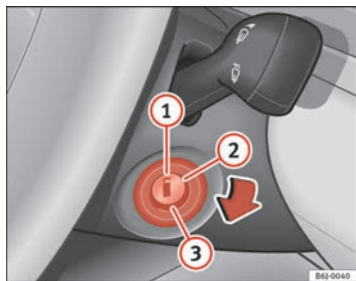

Fig. 101 Ignition key positions
In this position ⇒ fig. 101 the ignition and the engine are OFF and the steering may get locked.
- Turn the ignition key to position ⇒ page 132, fig. 101 ②. The indicator lamp  will light for engine pre-heating.
- When the warning lamp turns off, turn the key to position ③ to start the engine. Do not press the accelerator.
- Turn the ignition key to position ⇒ page 132, fig. 101 ①. ▶